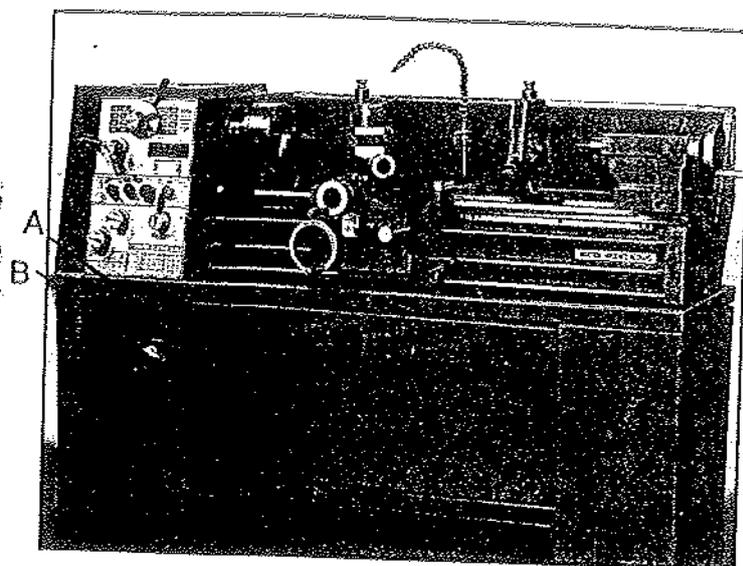

Fig. 14
21. **Foot Brake (A, Fig. 14)** - located between stand pedestals. Depress to stop all lathe functions.
23. **Two Speed Motor Switch (B, Fig. 14)** located on front of the left base pedestal. Position one is for high speed. Position two is for low speed. Position zero is neutral and the spindle will not turn. **Note:** Check this switch and make sure position one or two is selected if the lathe will not run.